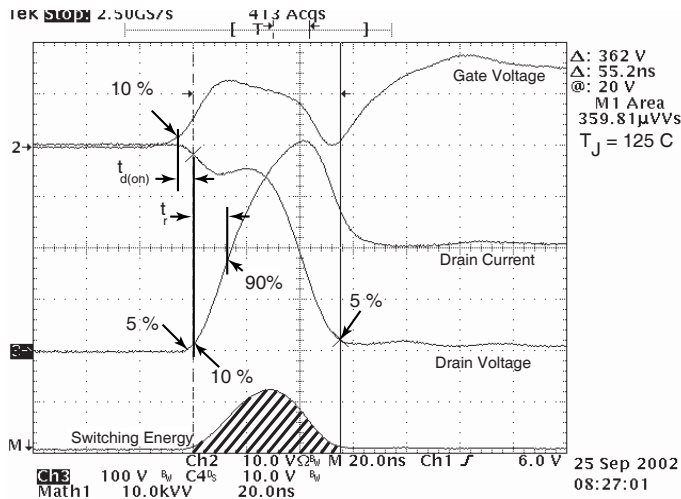

Figure 18, Turn-on Switching Waveforms and Definitions
① Repetitive Rating: Pulse width limited by maximum junction temperature
② Pulse Test: Pulse width < 380 μs , Duty Cycle < 2%
③ See MIL-STD-750 Method 3471
④ Starting $T_j = +25^\circ C$, $L = 5.49mH$, $R_G = 25\Omega$, Peak $I_L = 21A$
⑤ dv/dt numbers reflect the limitations of the test circuit rather than the device itself. $I_S \leq -I_{D21A}$ $di/dt \leq 700A/\mu s$ $V_R \leq V_{DSS}$ $T_j \leq 150^\circ C$
⑥ E_{on} includes diode reverse recovery. See figures 18, 20.